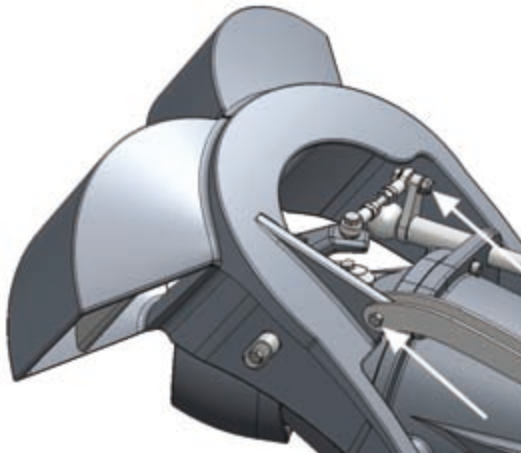

Figure 30. Reversing deflector screws
1. Open the screws indicated by arrows in figure 30.